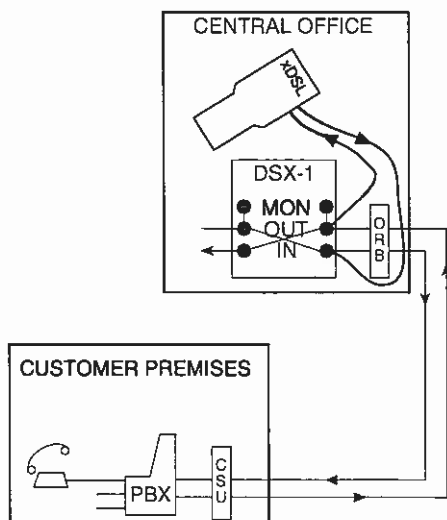

Figure 103 Simple Talk/Listen
This is the simplest procedure for talking and listening on a T1 circuit. The setup is illustrated in Figure 103, Simple Talk/Listen. However, instead of having a PBX at the far end of the circuit, you might have another test set, a loopback, a switch, channel bank, or a other T1 terminating network element. Verify the span is not in service. This test will disrupt service for the 23 channels that you are not using. Use this procedure:
2. Plug the set into the circuit as shown in the Figure 103, Simple Talk/Listen.